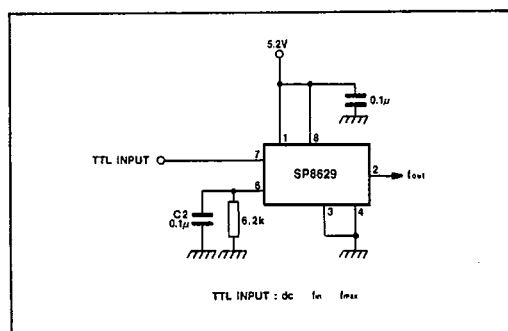

Fig.7 TTL input (DC $I_{in} < I_{max}$)
4. The input waveform will normally be sinusoidal but below $10MHz$ correct operation depends on the slew rate of the input signal. A slew rate of $50V/\mu s$ will enable the device to operate down to DC. The device will operate with a TTL input signal as shown in Fig. 7 and is DC coupled to the input.